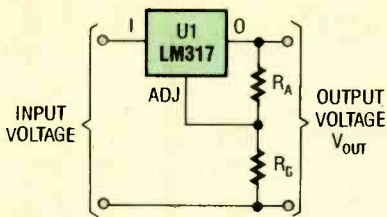

Fig. 1. This is the standard way of wiring an LM317 adjustable-voltage regulator. The output voltage is determined by the values of  $R_A$  and  $R_B$ .
**What's in It?** The Car-Power Adapter contains an LM317 adjustable-voltage regulator. Its output voltage is determined by the resistor network accompanying it. Take a look at the example circuit in Fig. 1. Resistors  $R_A$  and  $R_B$  set the regulator's output voltage according to the following equation: